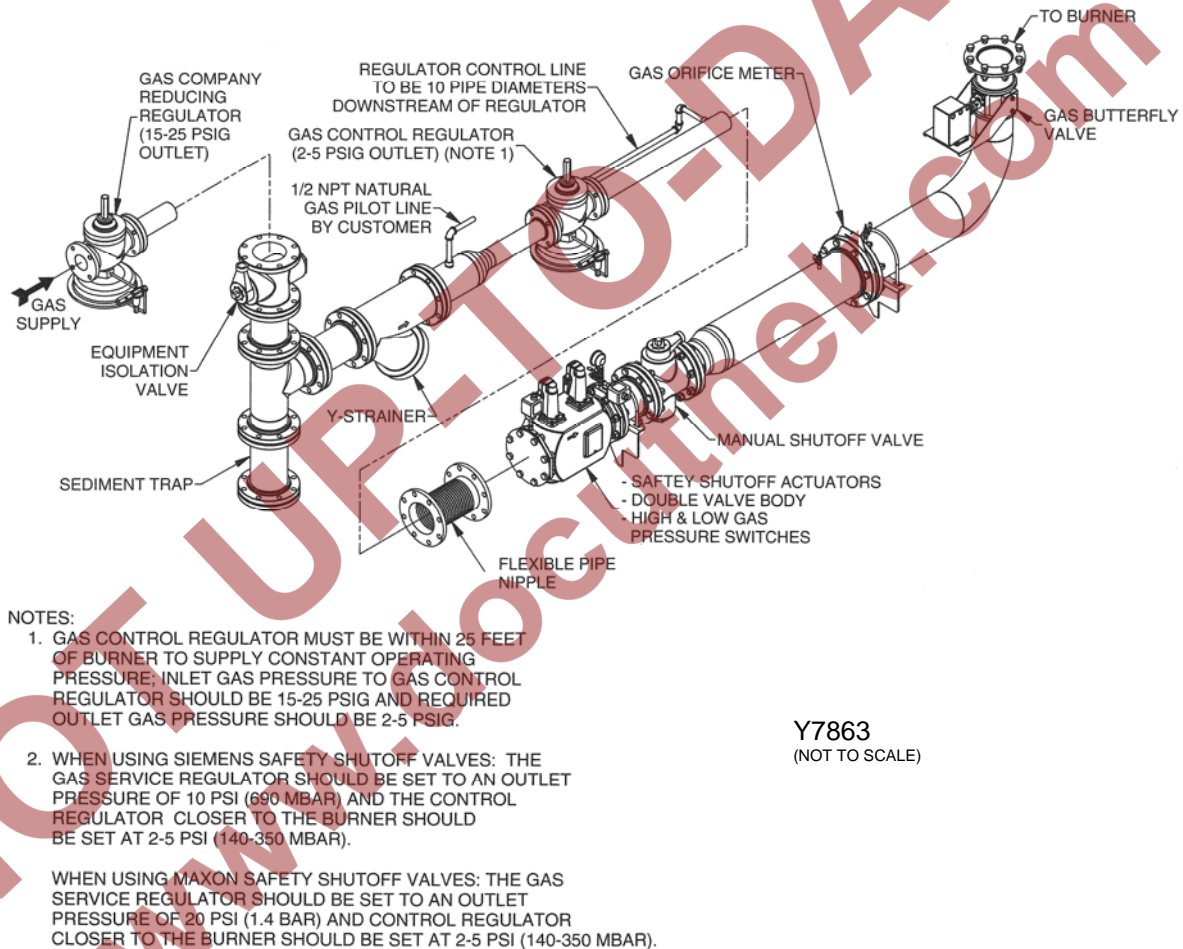
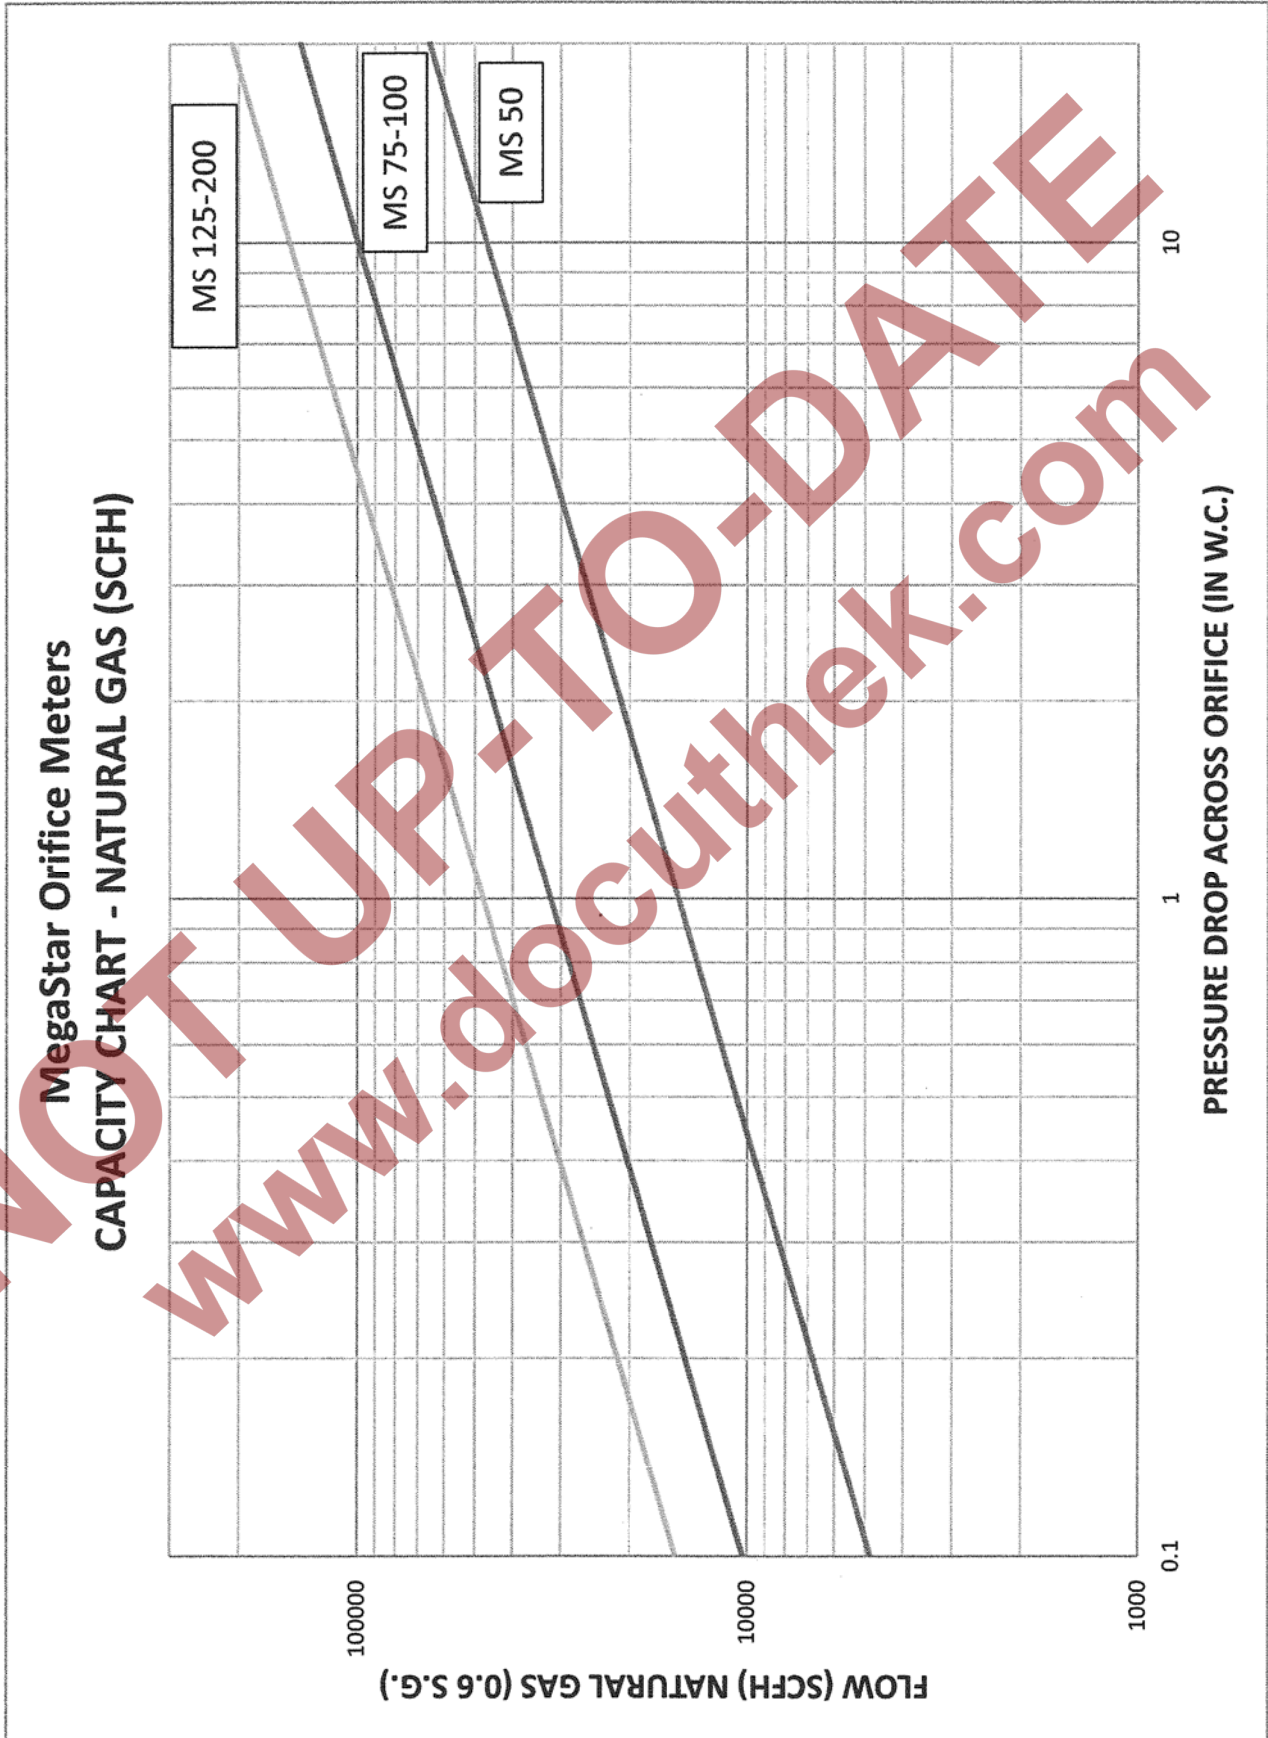

Figure 2. Typical Schematic of Burner Gas Piping
Figure 4. MegaStar™ Gas Orifice Meters Graph
1. Install a controlling gas regulator in the main gas line within 25 ft (7.6m) of the burner. This regulator should be sized to provide the required gas flow at the inlet of the burner manifold. Exact gas pressure must be set at the initial start-up depending on piping configuration, burner size, and maximum capacity desired. Regular settings are designed for best operation and compliance with NFPA 54 (see Figure 2).
4. Connect the main gas line (see Figure 2). A flexible pipe nipple should be used to connect the gas line to the burner gas manifold (see Table 5 for sizes).
6. The OMG gas orifice meter is an integral part of the gas manifold located on the burner (refer to Figure 2). Refer to individual burner gas orifice meters graph for gas flows through the gas orifice meter (see Figure 4). Orifice meter sizes and part numbers are shown below in Table 6.